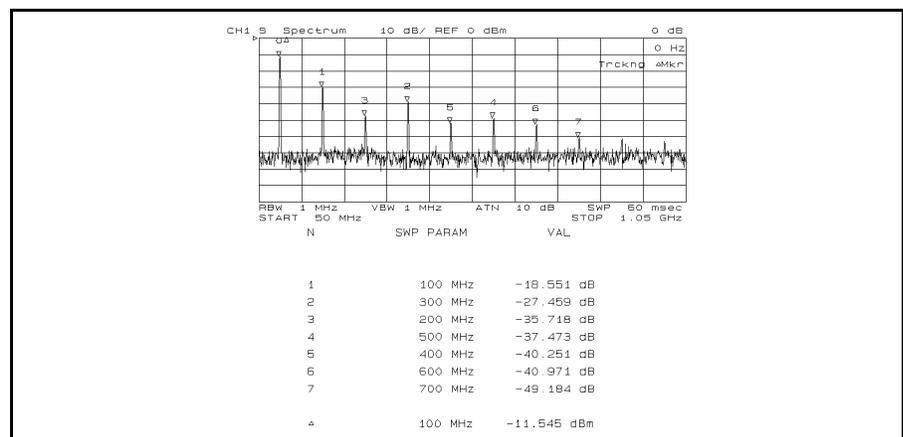

Figure 4-3.
4. Press **[Utility]** MKR LIST on OFF to ON off to turn marker list on. The Δmarker and all sub-marker values are displayed as shown in Figure 4-3.